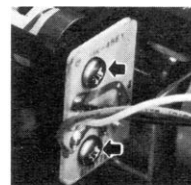

Fig. 32
7) Remove 2 screws of the hall IC circuit board. (Refer to Fig. 32)